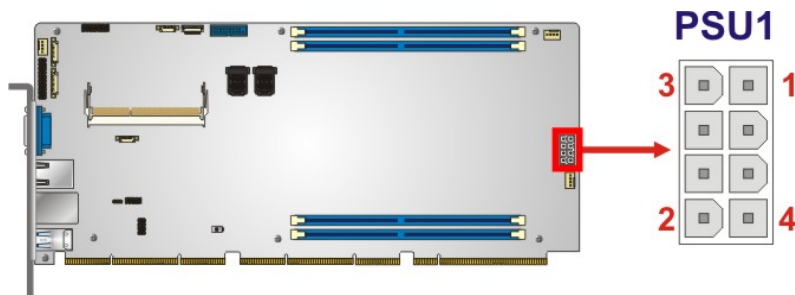

Figure 3-2: +12V Power Connector Pinout Location
- CN Location:** See **Figure 3-2**